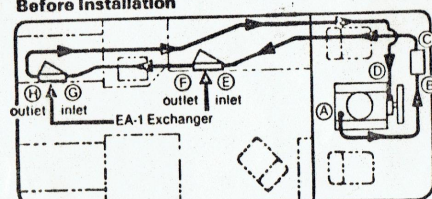

FIG. 2
1. For best heating results, install one (1) EA-1 heat exchanger for each 10 to 11 ft. of total coach length for fully thermostatic operation.
- Locate exchanger(s) to obtain the most even distribution of heat (see fig. 2). Ideal location is in the toe space beneath a seat or cabinet. BE SURE THE AIR INTAKE IS NOT BLOCKED OR STARVED. DO NOT MOUNT OUTSIDE OR UNDER THE VEHICLE.
- Position exchangers for shortest possible hose routing that avoids kinks or sharp bends. The exchanger fitting CLOSEST TO VEHICLE FLOOR IS INLET (connects by hose to existing heater outlet as shown at "C" in fig. 2). The OUTLET fitting on the other end of the exchanger will then be higher (farthest from floor). This connects by hose to the next heat exchanger (or returns to vehicle's engine at "D" in fig. 2). Exchangers may be positioned in any attitude as long as the lowest fitting is the water inlet.
4. Connect hose and clamps (see specified types below) to exchanger(s) before disconnecting and discarding the existing hose between "C" and "D" in fig. 2. USE EXTREME CARE WHEN ATTACHING HOSES TO EXCHANGER INLET AND OUTLET NIPPLES — TWISTING OR BENDING WILL BREAK THE SOLDER CONNECTIONS AND CAUSE LEAKS. BE SURE THAT HOSE PASSING THROUGH PANELS OR FIREWALL ARE NOT SUBJECTED TO CHAFING OR CUTTING. DO NOT ALLOW HOSE TO LAY AGAINST HOT ENGINE BLOCK OR EXHAUST PIPES.